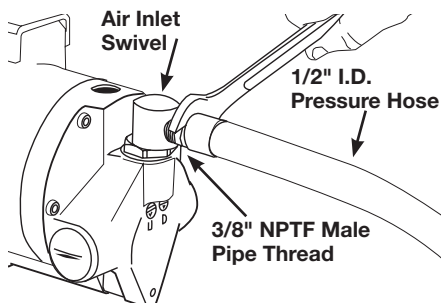

Figure 2- Connecting Air Hose to Hoist
1. Connect hoist to nearest filtered and lubricated air source using minimum 1/2" I.D. air hose assembly (See Figure 2). Avoid use of reducing bushing and nipple or hose assemblies of smaller diameters which may cause restrictions.